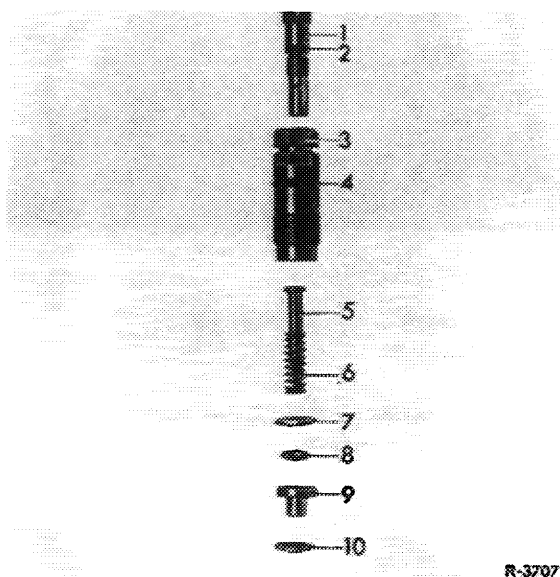

Fig. 07-4/6
4 Pull out needle nozzle with guide tube (9) from the carburetor housing; take out sealing ring (10) (Fig. 07-4/7).
5 Remove guide tube (9), washer (7), and spring (6) from needle nozzle (5) (Fig. 07-4/6).
6 Insert rubber ring (8) into guide tube (9). Slip compression spring (6) and washer (7) on needle nozzle (5) and force needle nozzle into guide tube (9) (Fig. 07-4/6).